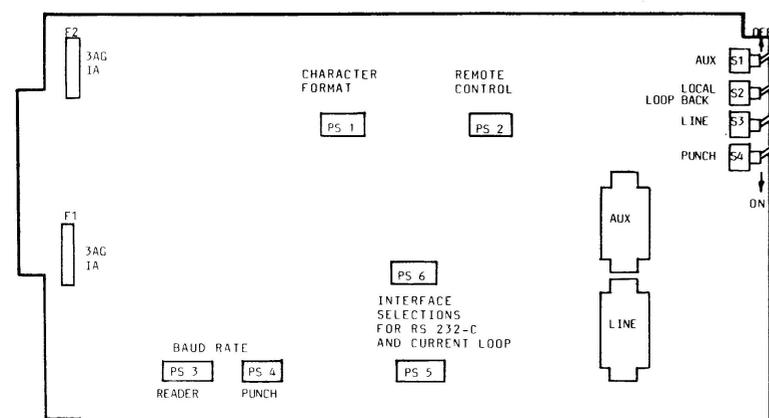

Figure 1. Facit 5148 – Localization of switches
The operational modes of the interface are controlled by four (4) switches (Fig. 1) located on the edge of the interface board. Access to them is made by pulling the Facit 4040 forward out of its rack enclosure. The four operating modes are as follows:
The interface board can be programmed for a wide range of communication functions and controls. Programming is accomplished via small jumper plugs inserted into I.C. sockets designated PS 1–6. (See Fig. 1) Each jumper plug socket is marked with a 1 at the first position. 7, 8 or 9 position sockets are used. The following functions are selectable.